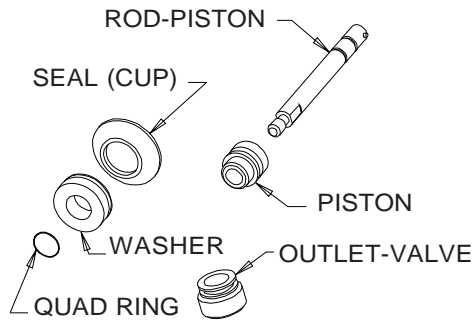

Figure 6-5 Clean plunger rod, shaft seal, bushing and nozzle
b. The shaft seal, bushing, nozzle, plunger O-ring grooves, and rod, as shown in figure 6-5.